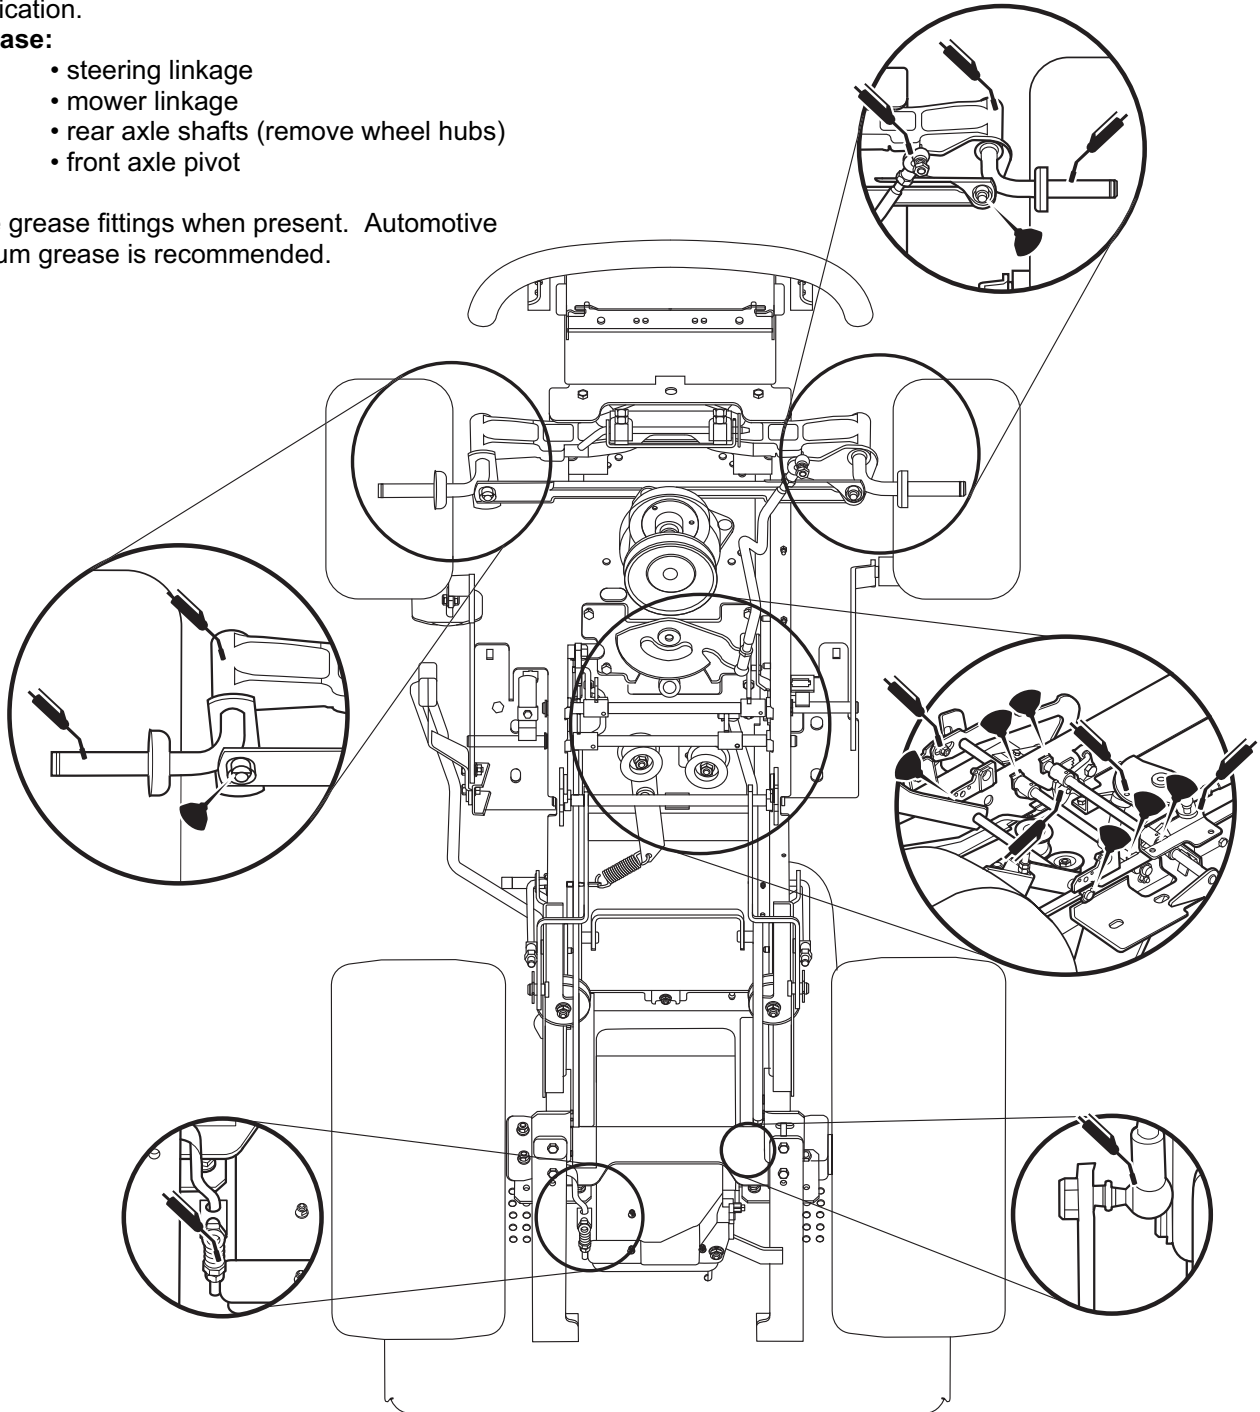

Figure 16. Tractor Lubrication Points
3. Rock the hood back slightly and lift hood (B, Figure 16) off pivot posts (C). Set hood on a clean and flat surface.